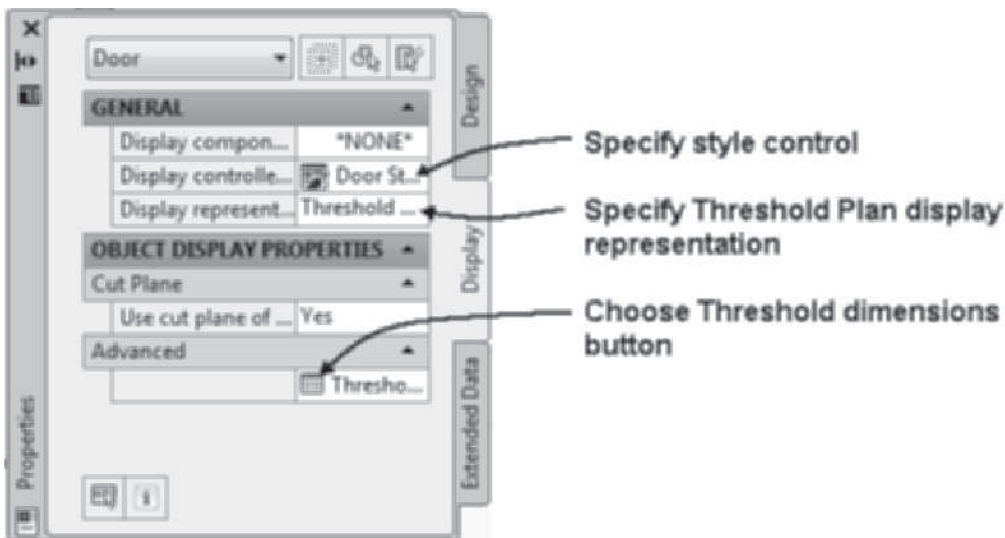

FIGURE 5.61 Display tab of the Properties palette
21. In this step a threshold will be added to the door style from within the **Display** tab of the Properties palette. Select the exterior door, right-click, and choose Properties. Choose the Display tab. Edit the Display tab as follows: Display representation = Threshold Plan, Display controlled by = Door Style: Hinged-Single Exterior, and Display component = None. Choose the Threshold dimension button as shown in Figure 5.61.